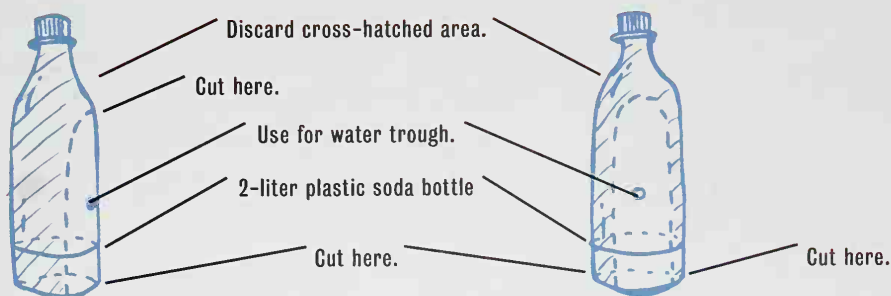

Fig. 2
2. Cut the water trough from a second plastic 2-liter soda bottle, using Fig. 2 as a guide. Scissors can be used to make the cuts, but it is easier if tin snips are used to cut the soda bottle's bottom. Discard unused portions of this bottle.